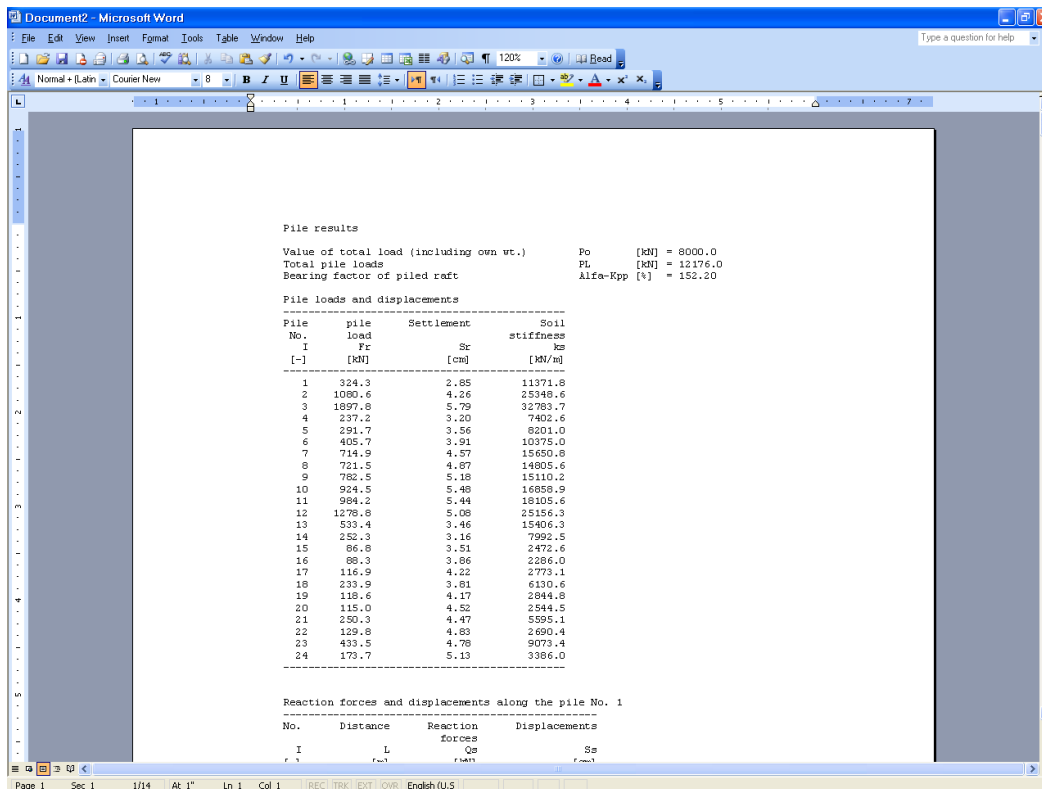

Figure 11-43 Exported results in MS Word
- Choose "Send to Word" from "File" menu if you wish to export the text to the MS Word application, Figure 11-43